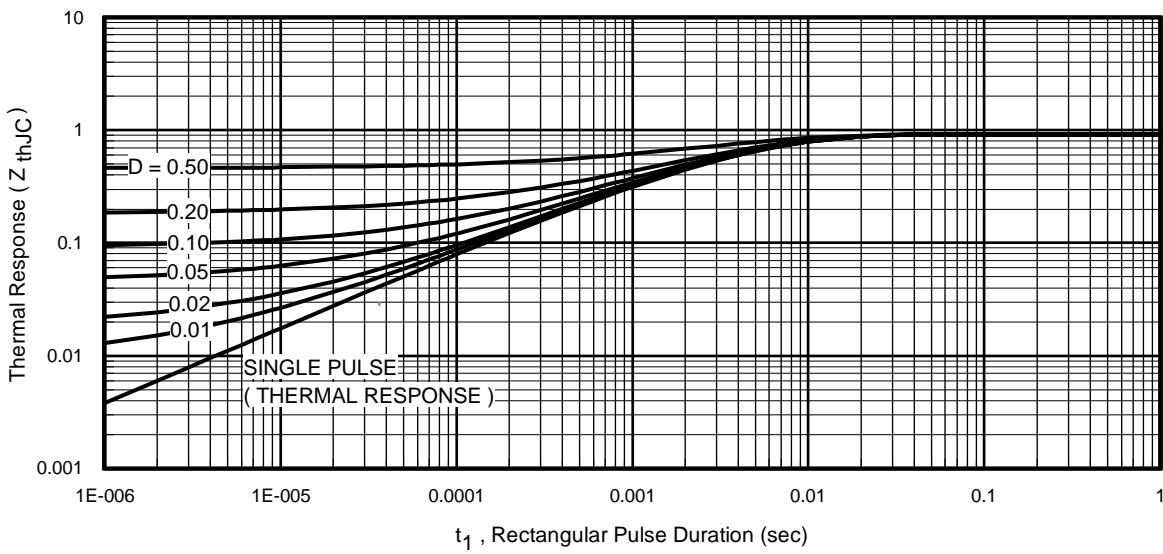
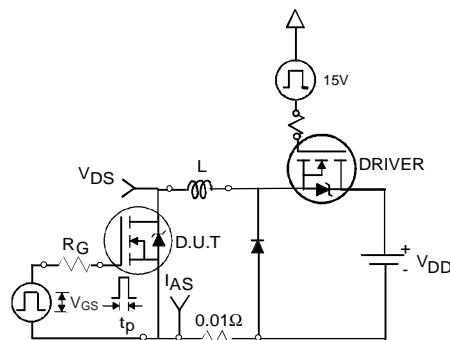

Fig 11. Maximum Effective Transient Thermal Impedance, Junction-to-Case
Fig 12a. Unclamped Inductive Test Circuit
- ① Repetitive rating; pulse width limited by max. junction temperature. (See fig. 11).
- ② Limited by $T_{J\max}$, starting $T_J = 25^\circ\text{C}$, $L = 0.27\text{mH}$, $R_G = 25\Omega$, $I_{AS} = 35\text{A}$, $V_{GS} = 10V$. Part not recommended for use above this value.
- ③ $I_{SD} \leq 35\text{A}$, $di/dt \leq 380\text{A}/\mu\text{s}$, $V_{DD} \leq V_{(\text{BR})\text{DSS}}$, $T_J \leq 175^\circ\text{C}$.
- ④ Pulse width $\leq 1.0\text{ms}$; duty cycle $\leq 2\%$.
- ⑤ $C_{oss \text{ eff.}}$ is a fixed capacitance that gives the same charging time as C_{oss} while V_{DS} is rising from 0 to 80% V_{DSS} .
- ⑥ Limited by $T_{J\max}$, see Fig.12a, 12b, 15, 16 for typical repetitive avalanche performance.
- ⑦ This value determined from sample failure population. 100% tested to this value in production.
- ⑧ This is applied to D²Pak, when mounted on 1" square PCB (FR-4 or G-10 Material). For recommended footprint and soldering techniques refer to application note #AN-994.
3. Equation below based on circuit and waveforms shown in Figures 12a, 12b.
- $Z_{thJC}(D, t_{av})$ = Transient thermal resistance, see figure 11)